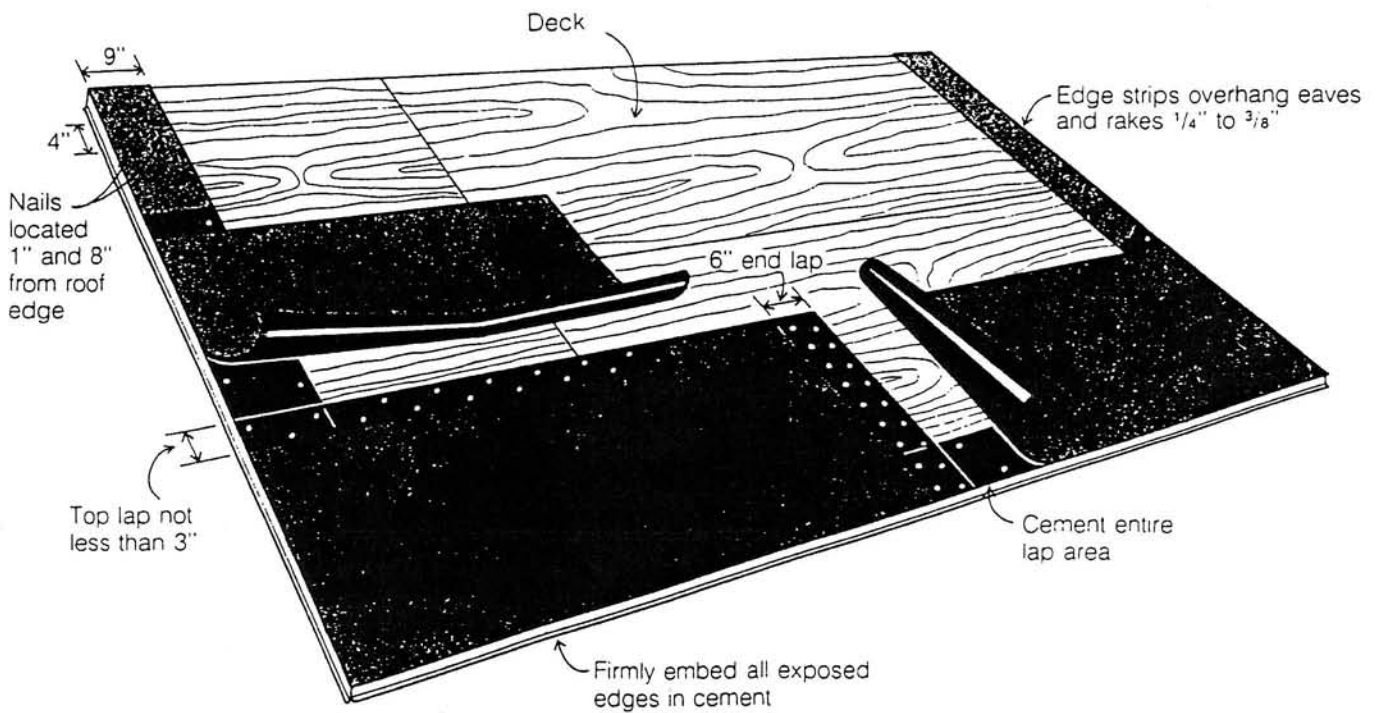

Figure 58: Concealed nail method of applying roll roofing parallel to the eaves
**CONCEALED NAIL METHOD.** When using this method, narrow edging strips are placed along the eaves and rakes before applying the roofing. Figure 58 illustrates the general installation procedure, including lapping, cementing and nailing.